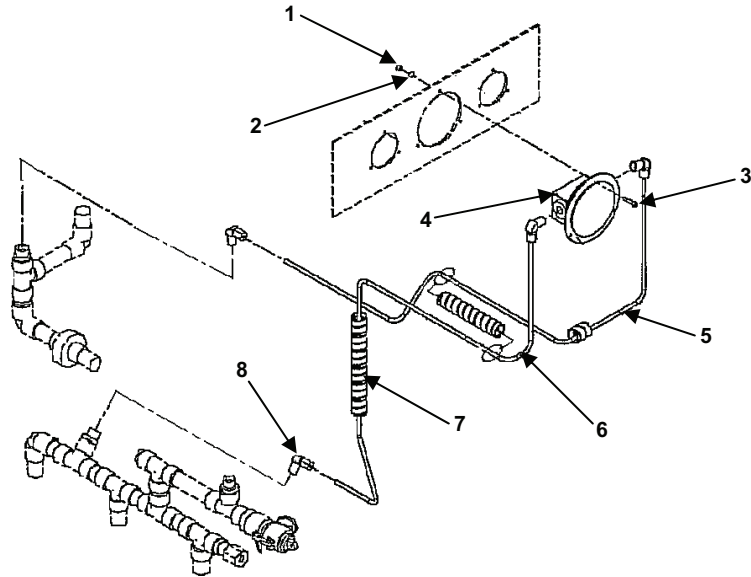

Figure 2. Differential Pressure Gauge.
1. Remove screws (Figure 2, item 3), nuts (Figure 2, item 1) and washers (Figure 2, item 2) from gauge (Figure 2, item 4).
2. Disconnect tubing (Figure 2, item 5 and 6) from gauge.
3. Remove spiral wrap (Figure 2, item 7) only if necessary.
4. Remove elbows (Figure 2, item 8) only if necessary.